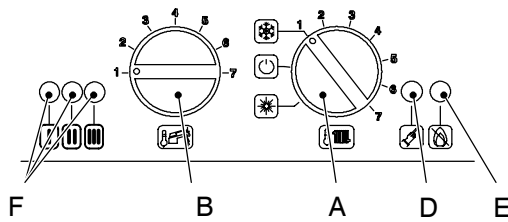

Fig. 18
- 10 Turn the boiler OFF and ON positioning the function selector knob A as indicated in Fig. 18